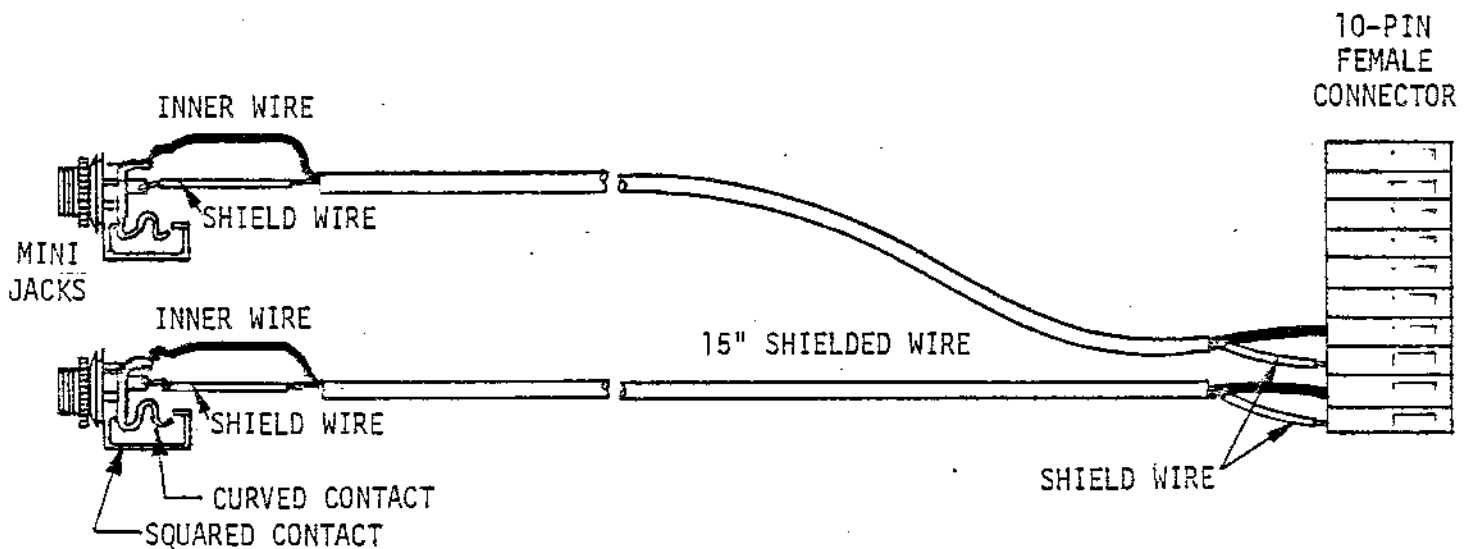

Figure 5-12. Mini Jack and Cable Assembly
8. Referring to Figure 5-12, cut two pieces of the insulation saved from step 1 and place them over the shielding on the opposite end of the two cables so that only 1/8 inch of bare shielding protrudes. The two miniature phone jacks included in your kit have three solder terminals on them. One of the solder terminals is connected directly to the center metal portion of the jack which runs through to the mounting threads. Solder the shielding wire from each cable to this solder terminal on each phone jack.
9. Position the jack as shown in Figure 5-12. There are two mechanical contacts on each jack. One is squared (outside position) and the other is curved and on the inside position. The center of the three solder terminals is connected to the curved contact. Solder the inner wires of each cable to the center solder terminal (described above) of each jack.